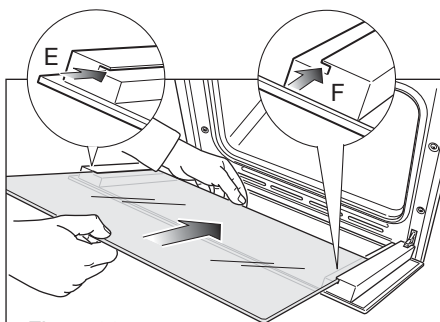
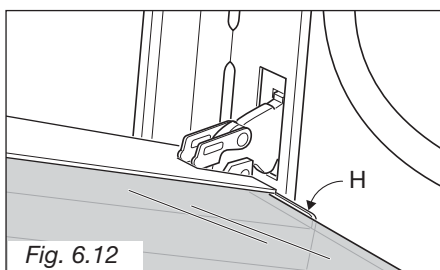

Fig. 6.11
Fig. 6.12
- Insert the inner glass in the left **E** and right **F** side guides (fig. 6.11) and gently let it slide up to the retainers **H** (fig. 6.12).